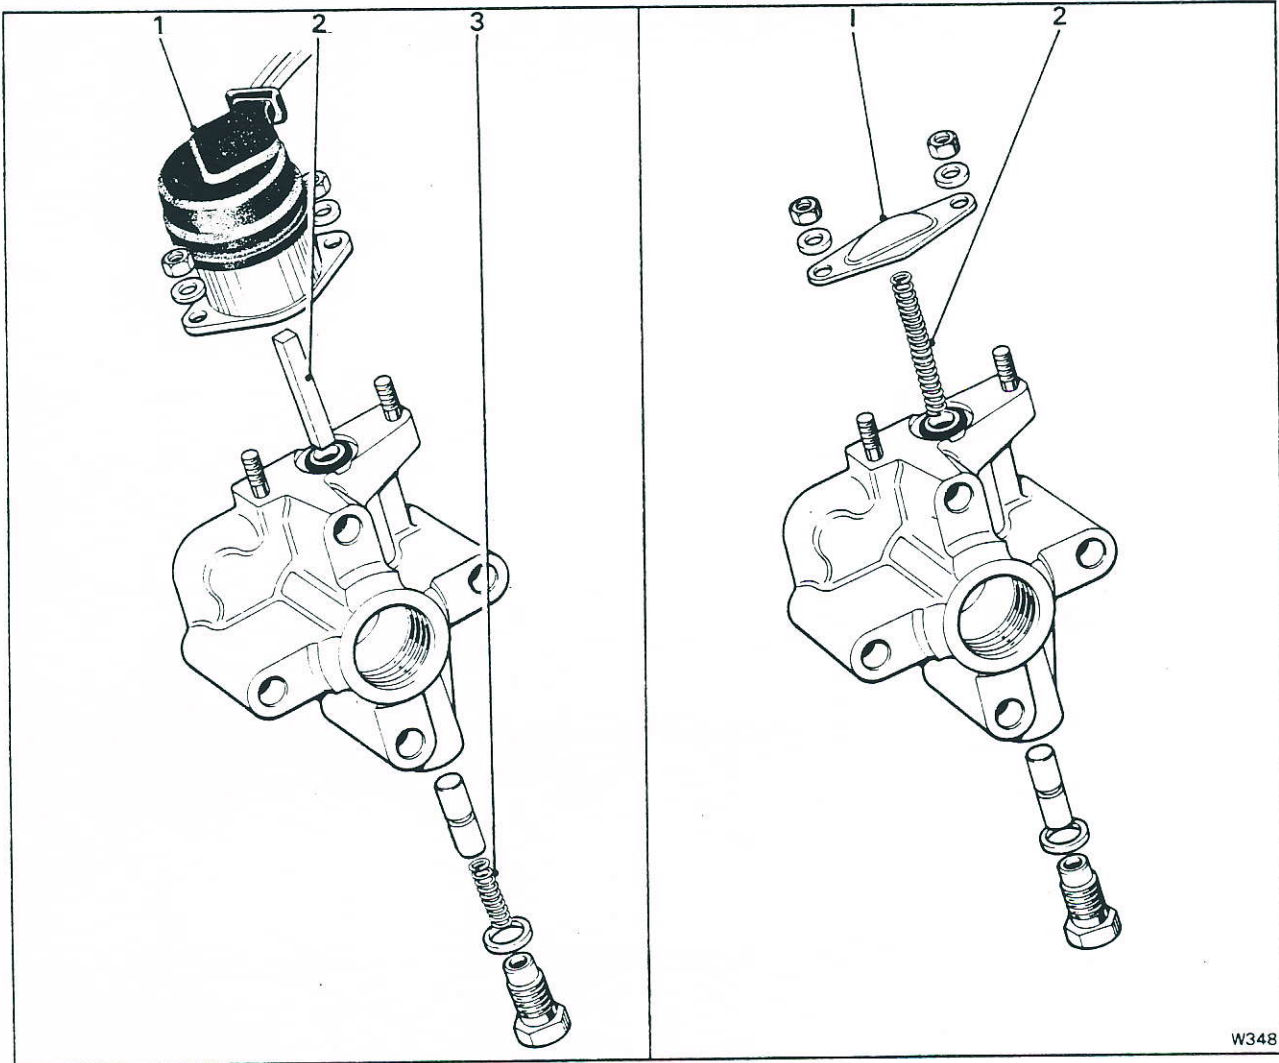

FIG 1 EARLIER ASSEMBLY
- 4 Remove the ride control solenoid (see Fig. 1)
- 5 Remove the solenoid spring (see Fig. 1)
- 6 Remove the slow leak push rod (see Fig. 1)